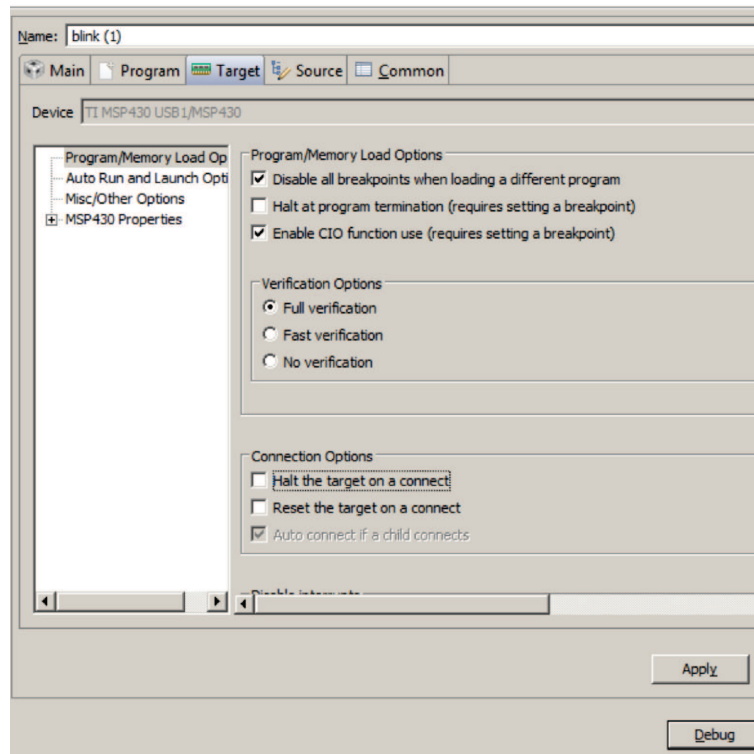

Figure 10. Attach Halt
- In "Program/Memory Load Options", uncheck "Halt the target on a connect" (see Figure 10).